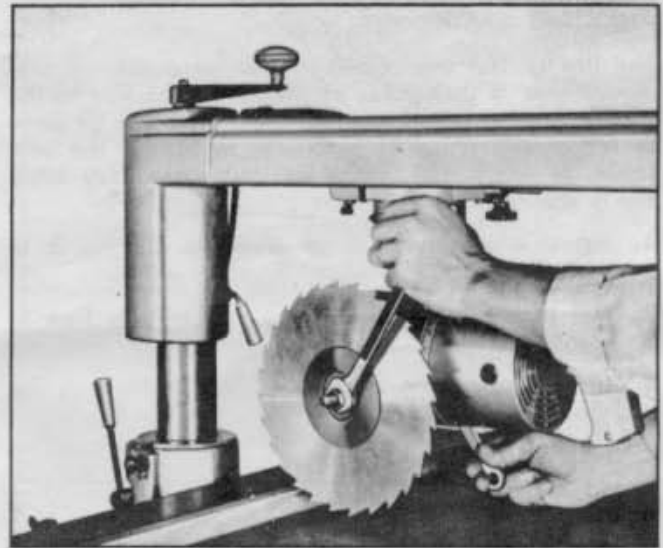

Fig. 14
2. Place the saw blade on motor arbor making sure the teeth are pointing in the same direction as shown in fig. 14.